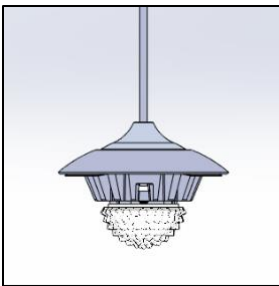

FIG. 4 REFLECTOR ASSEMBLY
1. REFLECTOR ASSEMBLY with CORD attached. (shown in FIG. 4)